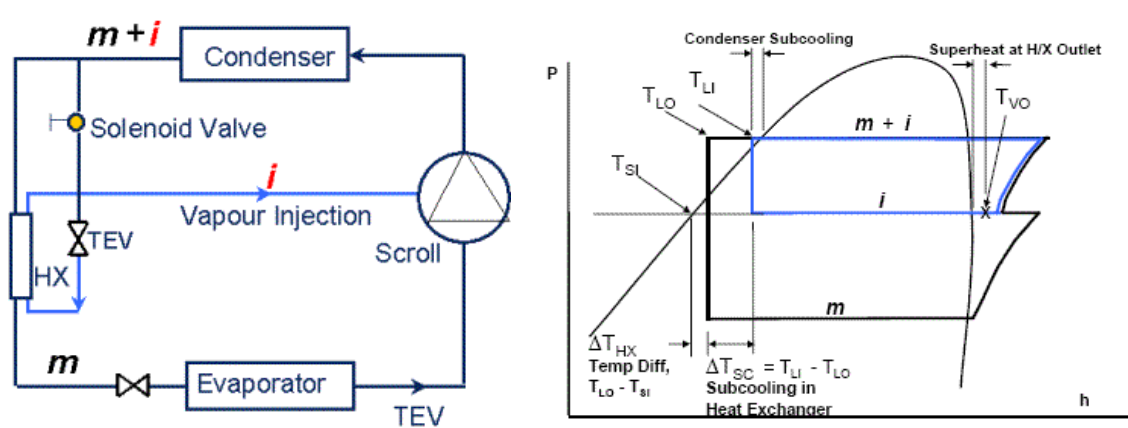

Figure 1: Circuit diagrams showing the main circuit, mass flow rate m , the economizer circuit and the mass flow rate i
As shown in **Figure 1**, a portion of the condensed liquid i is expanded through an expansion valve into a counterflow brazed-plate heat exchanger (HX), which acts as a subcooler. The superheated vapour is then injected into an intermediate vapour injection port in the scroll compressor. The additional subcooling increases the evaporator capacity by reducing the temperature of the liquid from T_{Li} to T_{Lo} , thus reducing its enthalpy. The additional condenser mass flow, i gives a corresponding increase in the heat rejection at the condenser.